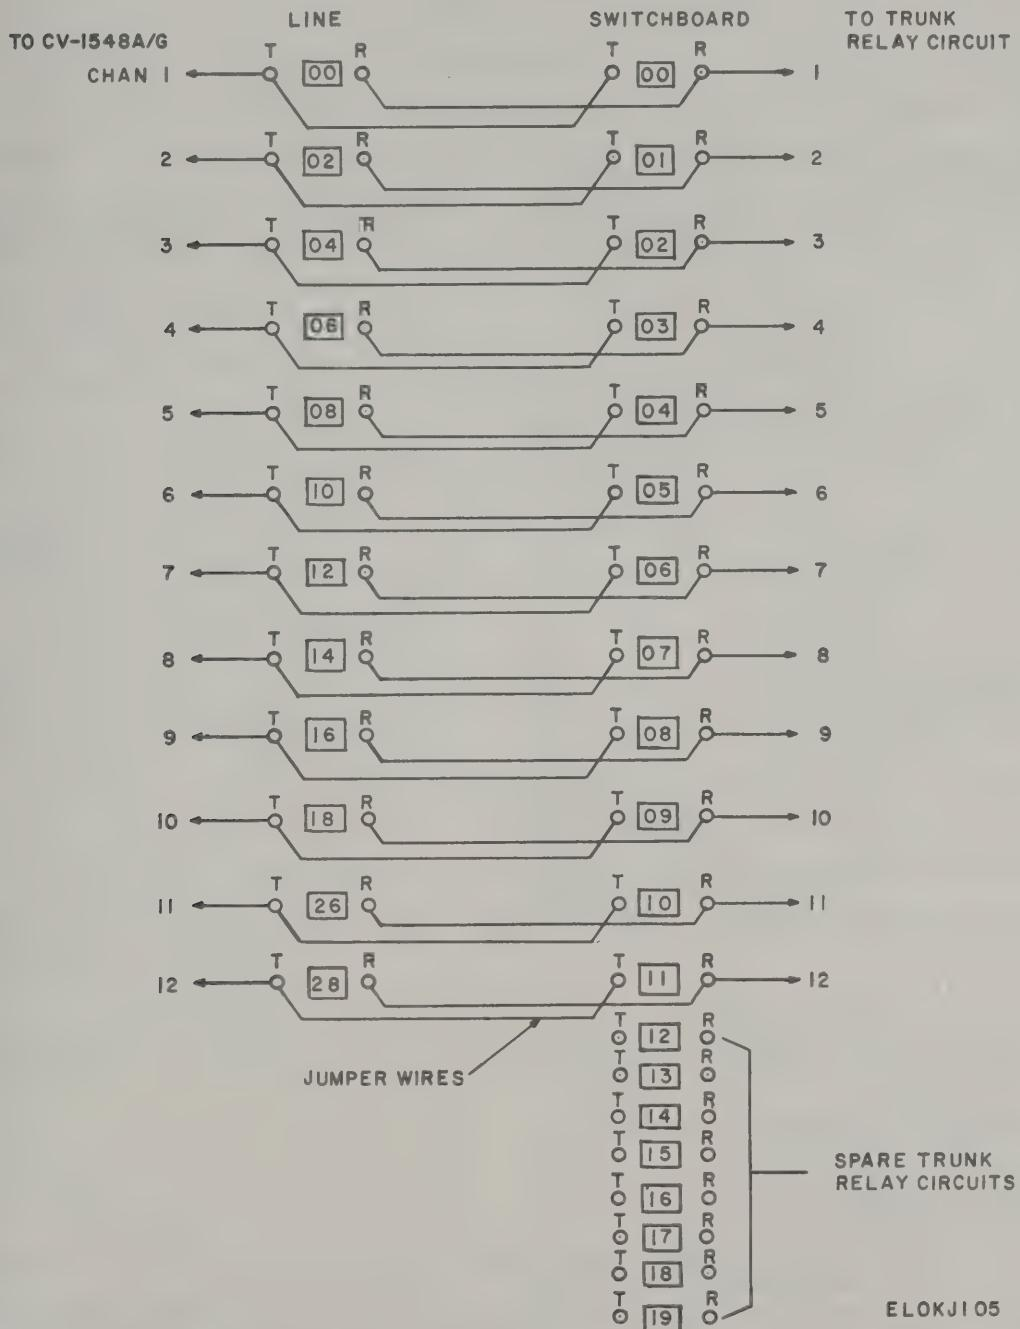

Figure 2-5. MDF-2 cross-connections for CV-1548/G and Telephone Circuit Trunk Relay TA-276/TTC.
(1) Connect jumper wires as outlined in figure 2-5. Be sure the jumper wires are connected from T(tip)